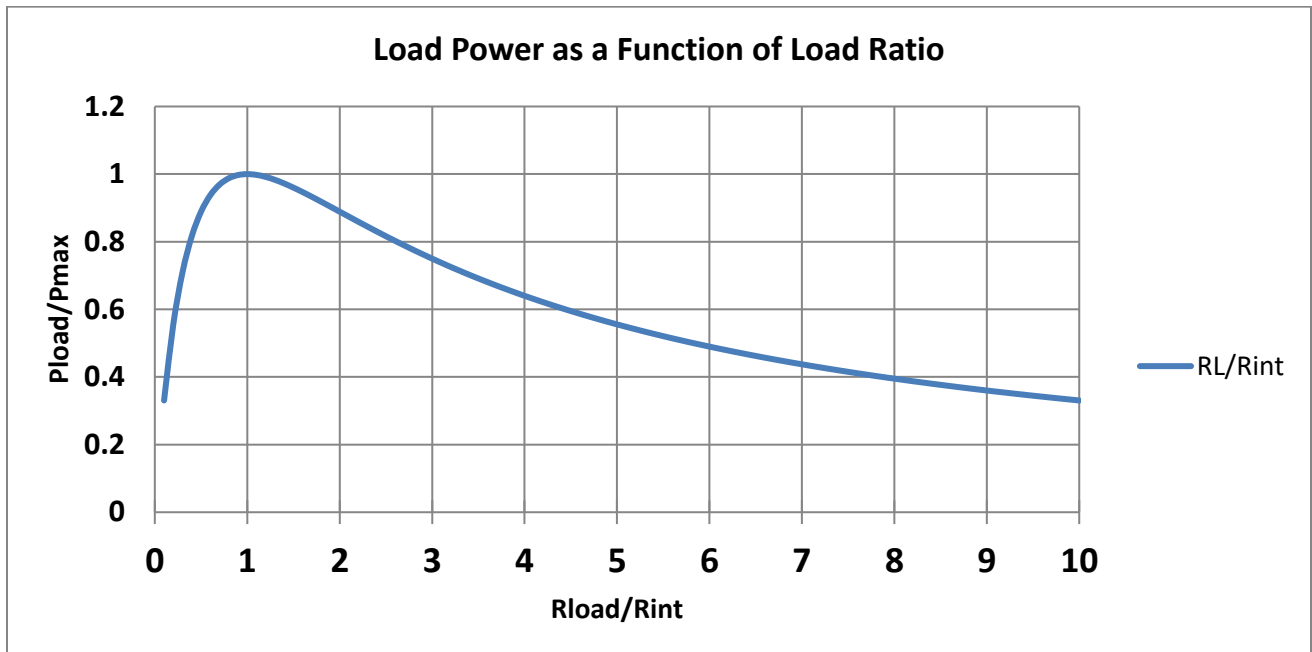

Figure 2 – Output Power as a Function of Load Resistance
Impedance Matching: When a load is added to the output of the module it always causes a decrease in the output voltage relative to the open circuit or no-load voltage. This can be seen from the V_L calculation in equation (2). So, it might seem that having high valued electrical loads is desirable from the standpoint of having high values of output voltage. This is not necessarily so, since the power delivered to the load is also a function of the value of load resistance. There is a well-known result from circuit theory that the maximum power is delivered to an electrical load when that load is chosen to match the input impedance of the generator. This is known as “Impedance Matching”. A plot of the power output as a function of the maximum possible power that can be delivered to a load is shown in Figure 2. This is a general plot that applies to any arbitrary electrical generator.